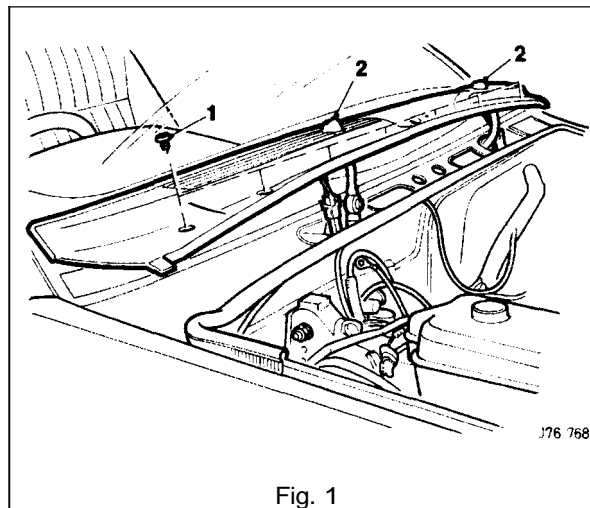

Fig. 1
- Undo and remove the plenum chamber finisher securing screws (1 Fig. 1).
- Displace and remove the washer jets (2 Fig. 1).